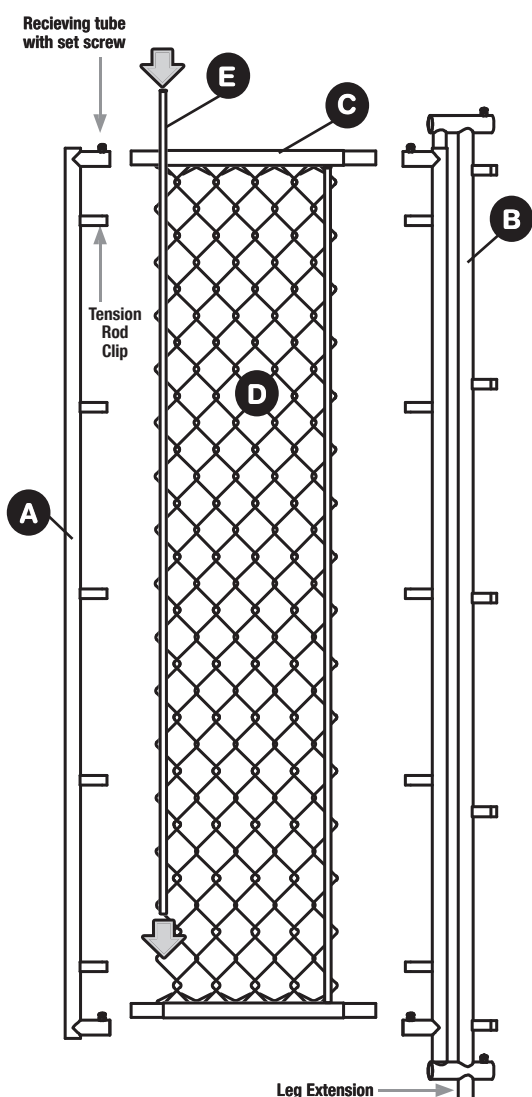

FIGURE 2
2. Insert **gate perimeter tubes (C)** into upper and lower receiving tubes on **gate perimeter latch side (A)**, attach this unit to **gate perimeter hinge side (B)** with leg extension on the bottom. Make sure tubes are fully inserted and tighten set screws (do not over tighten).
3. Insert **tension rods (E)** into both sides of the **chain link mesh for gate (D)**. Attach the tension rods to the clips on the interior of the gate. Mesh should be taut when inserted into the gate.
**TIP** – if the chain link mesh is too wide you can easily remove chain link “pickets” to achieve the desired dimensions. Straighten out the ends of the picket to be removed and twist the picket as you pull it from the mesh (FIGURE 2).
1. Unroll the **chain link mesh (K)** on a flat surface.
2. Examine the mesh. Look for pickets that need to be returned to position or that have come unhooked from one another. If pickets have moved out of position in transit, twist gently to return to position. Hook any end crimps together that have come apart. (FIGURE 2)
**TIP** – if the chain link mesh is not taut, you can easily remove chain link “pickets” to achieve the desired tension. Straighten out the ends of the picket to be removed and twist the picket as you pull it from the mesh. (FIGURE 2)